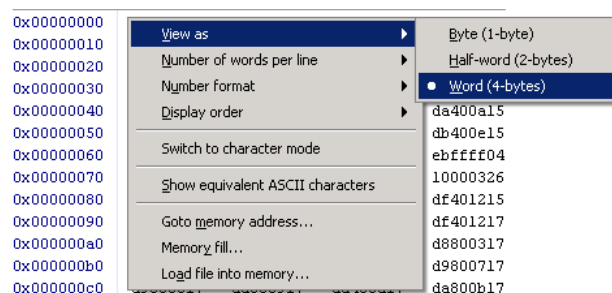

Figure 36. Setting the memory element size.
- Memory element size: the display can format the memory contents as bytes, half-words (2-bytes), or words (4-bytes). This setting can be configured by right-clicking on the Memory window, as illustrated in Figure 36.